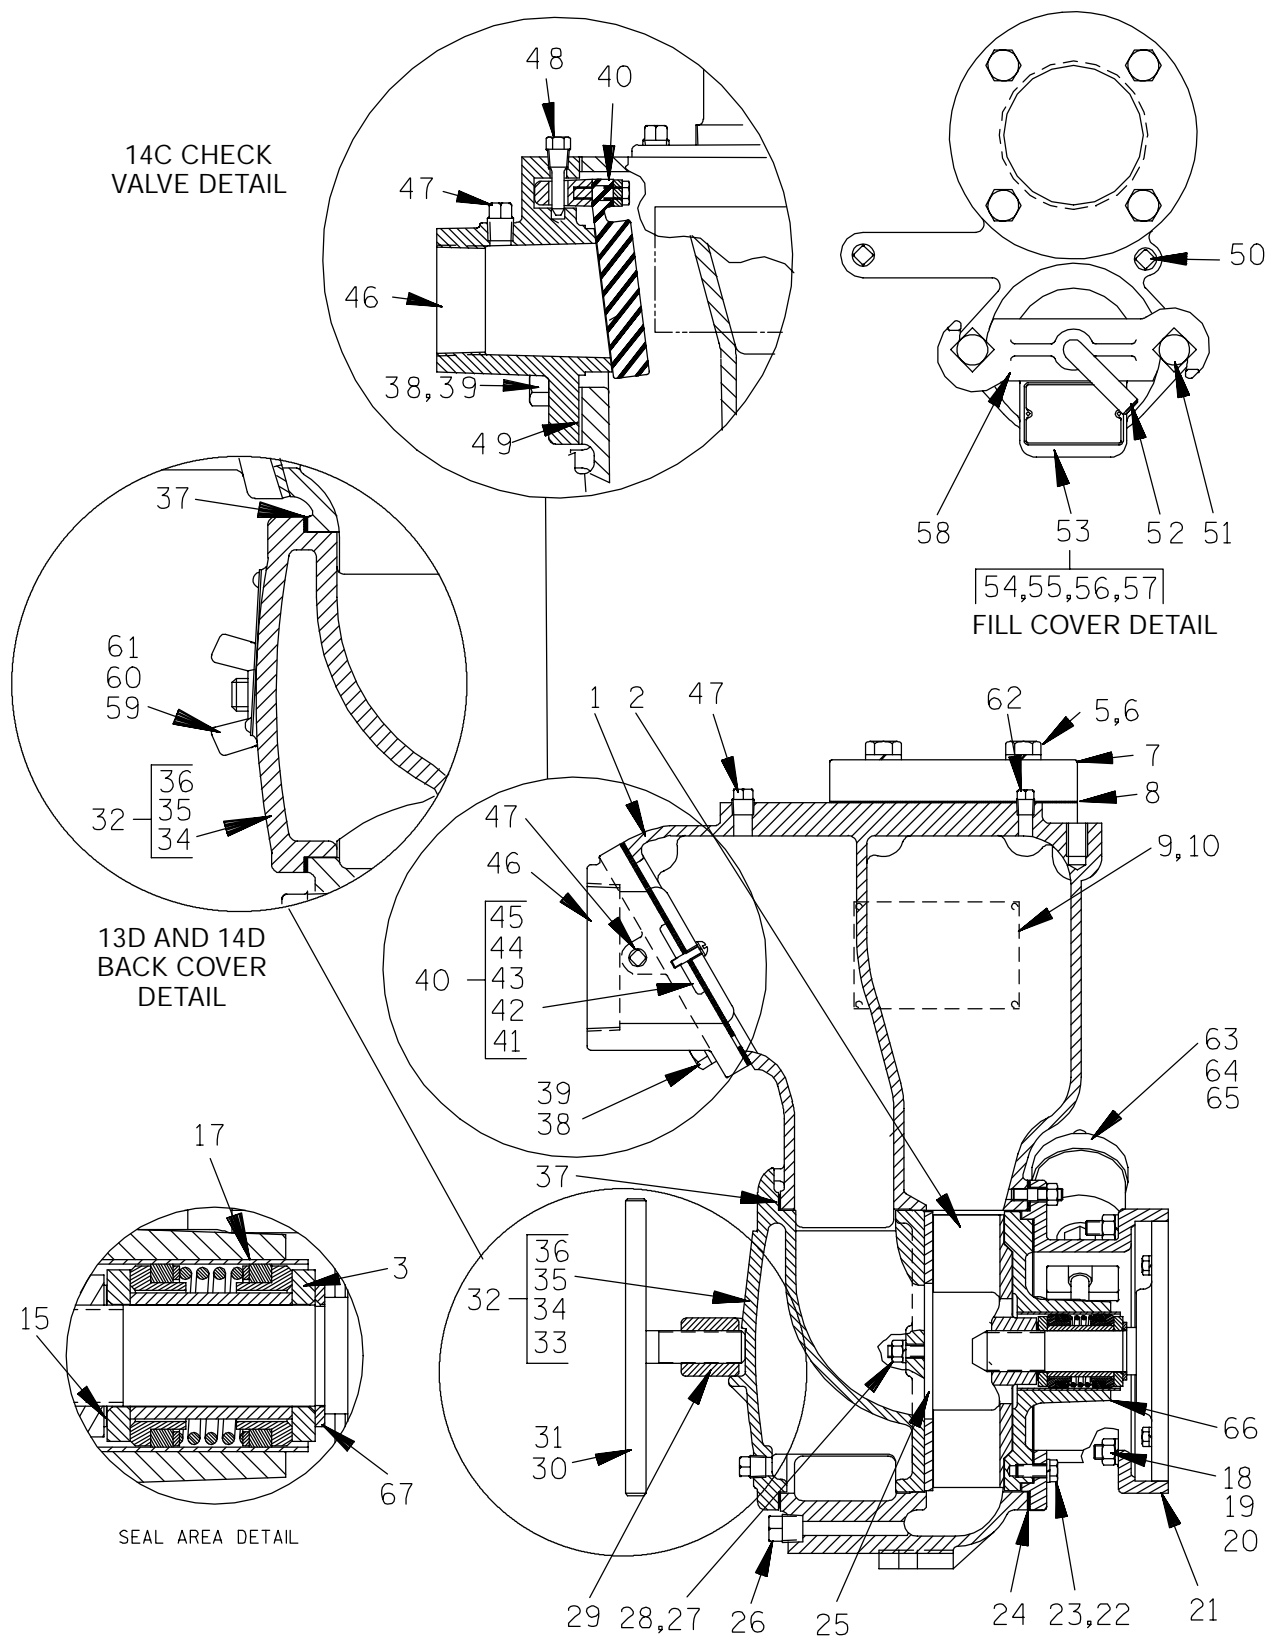

Figure C-2. Typical 13D, 14A, 14C, 14D And 16D Pump End Assembly
This pump requires little service due to its rugged, minimum-maintenance design. However, if it becomes necessary to inspect or replace the wearing parts, follow these instructions which are keyed to the sectional views (see Figure C-1 or C-2) and the accompanying parts list. Unless otherwise specified, the instructions apply to either Figure C-1 or Figure C-2.
Suction Check Valve Removal and Disassembly (Figure C--1 or Figure C--2)
If the pump is equipped with a grease seal, turn the cross arm on the automatic lubricating grease cup (63, Figure C-2) clockwise until it rests against the cover (see Figure C-7) before attempting to remove the impeller (2). This will prevent the grease